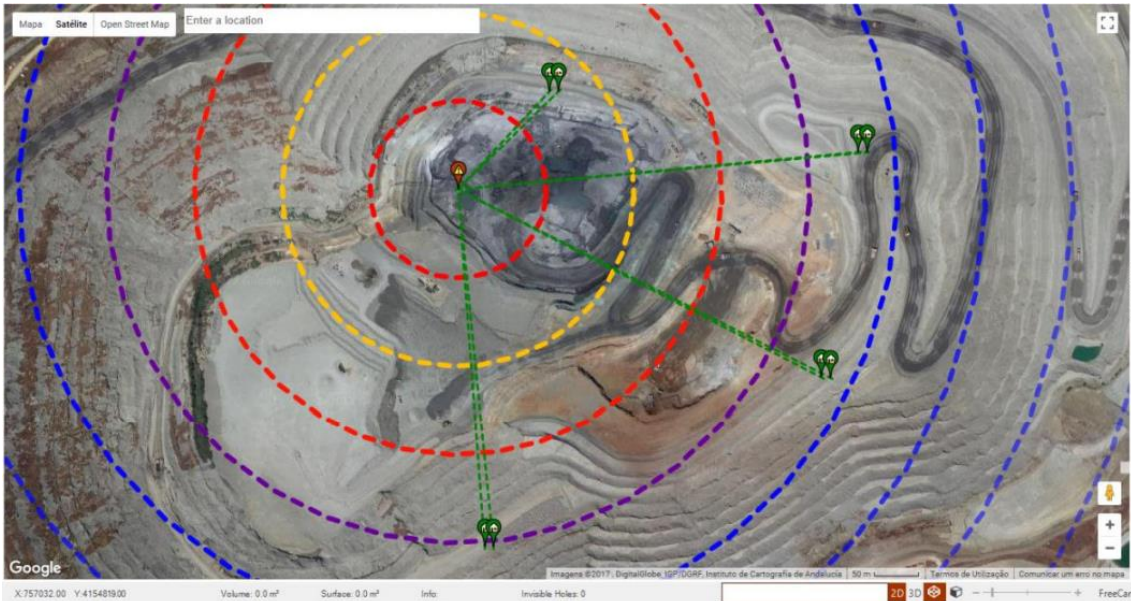

Fig. 420 – Creating new structures (10 meters aside)
- Change the position (by 10 meters): will create a new structure 10 meters aside of the other one - Fig. 420;